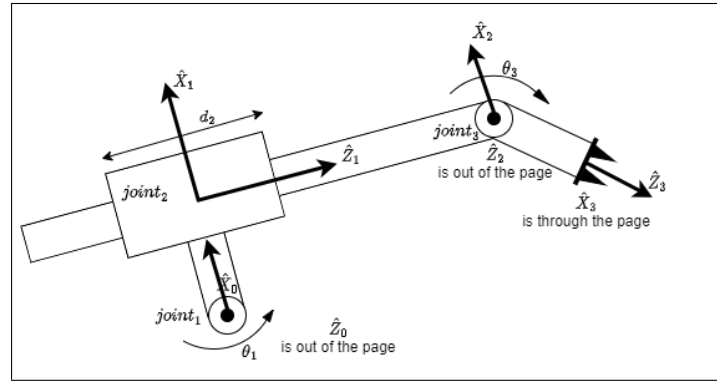

Figure 4: The *RPR* planar robot
**Answer:** The frames are attached as per DH convention given by Spong. See below Figure 4 -